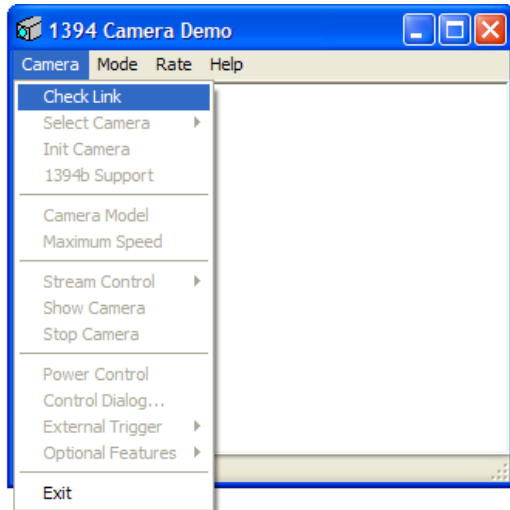

Figure 3.2
- b. In the 1394 Camera Demo application window, select **Camera→Check Link (Figure 3.2)**.